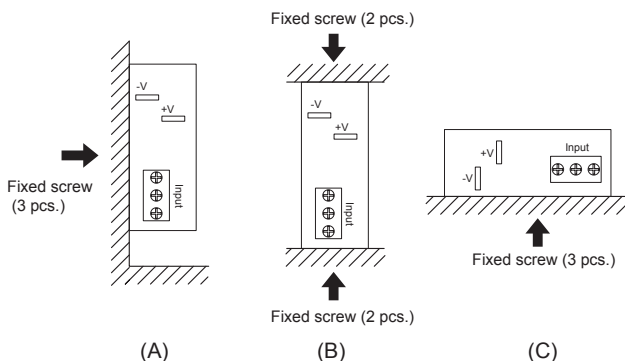

Fig.4.4 Installation method
- When mounting the power supply with screws, it is recommended that this be done as shown in Fig.4.4. If other methods are used, be sure the weight of the power supply is taken into account.